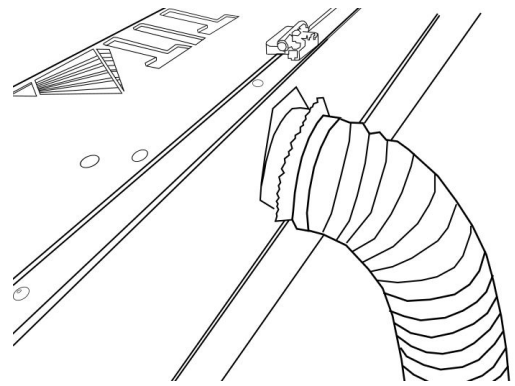

Fig. 15
2. **Position Ducting:** Place your 4" ducting over the Exhaust Port located at the back of the machine and hold. Secure with 4" ducting clamp. (See Fig. 15)